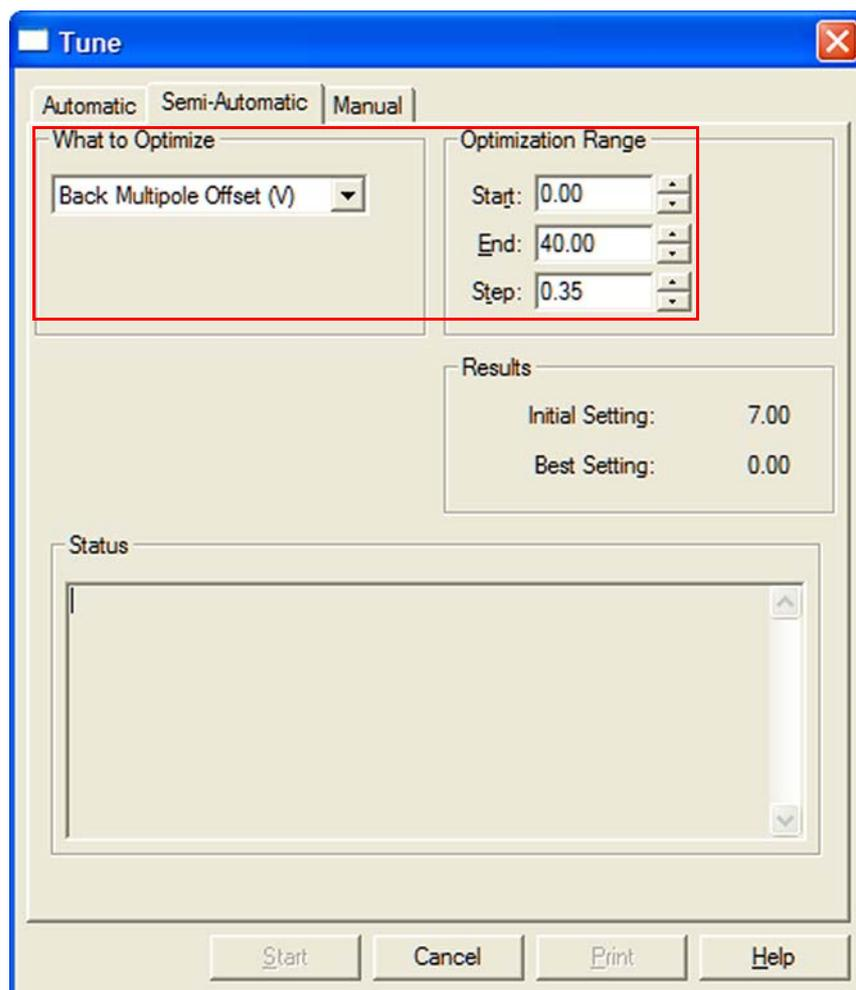

Figure 8-18. Semi-automatic tune of the Back Multipole Offset dc voltage
5. Open the Tune dialog box and perform a semi-automatic tune of the Back Multipole Offset with the settings shown in Figure 8-18 on page 8-20 (Start 0, End 40, Step 0.35).